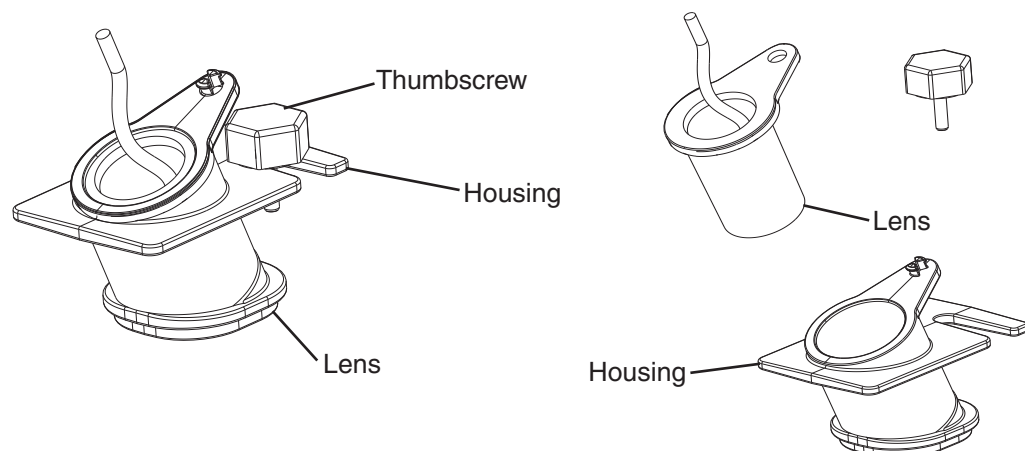

Fig. 3
- 3) Confirm that BC1 is connected to CB K10 connector. Wipe down BC1 lens with a warm, clean, damp cloth. If the bottom of the icemaker is not accessible in your application, remove the thumbscrew securing the BC1 housing, then remove the housing from the base. See Fig. 3.
- 7) CB "GM" and "COMP" LEDs are on. Use an object to cover BC1 lens at the bottom of the icemaker. If the bottom of the icemaker is not accessible in your application, remove the thumbscrew securing BC1 housing, remove the housing from the base, then cover BC1 lens. See Fig. 3. The CB BC1 "BIN FULL" orange LED on turns on. After the orange LED turns on, BC1 shutdown delay timer starts. See "III.B.11.b) BC1 (Ultrasonic Sensor) Shutdown Delay (S2 dip switch 1, 2, 3)." Comp (LLV/SLV on MLKZ model) should de-energize immediately after the shutdown delay timer terminates. 5 min. later, GM and FM/FMR should de-energize.